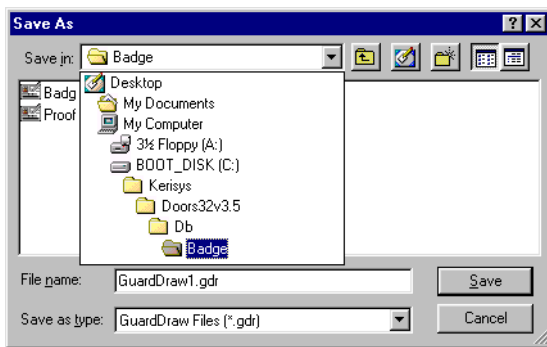

Figure 13: The Template Folder Structure
2. Click the  at the right side of the “Save in” field and the current folder structure is displayed (see Figure 13).